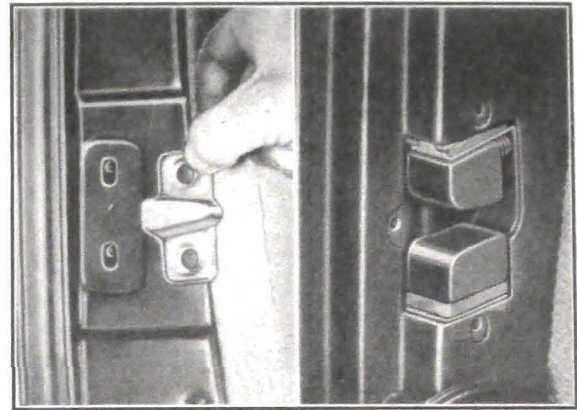

Fig. 1-41. Adjustable Wedge Plate Dovetail Bumper Assembly
- The dovetail bumper assembly, Fig. 1-41, comprises a casing cap, a bumper retainer and an upper and lower dovetail shoe. In this assembly the upper shoe is sliding, similar to 1941, the lower shoe is stationary and is cushioned at its bottom by a rubber bumper. Lubrication on these parts should be used sparingly.